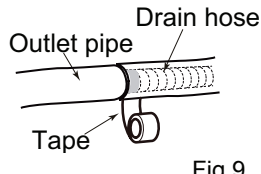

Fig. 9
(2) Bind the joint with tape.(As show in Fig.9)